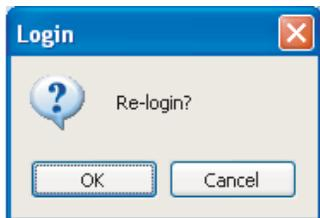

Fig.4-20
②Click “Re-login”, window as Fig. 4-20 will display that interface ask user whether re-login the system, if yes, please click “OK”. Click “Re-login”, system will close the main interface and enter to the login interface again.